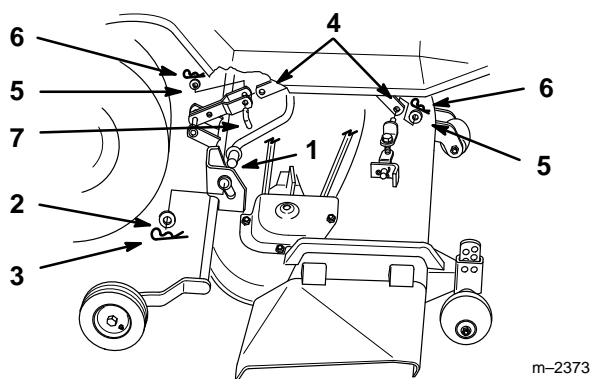

Figure 8
5. Place rear guide bushings, first left side then right, onto lift arms then slide deck left into position (Fig. 8).
6. Secure deck to rear lift arms with 3/4" washers and large hairpin cotters (Fig. 8).
7. Install front adjustable links to front lift arms with 1/2" washer and small hairpin cotter (Fig. 8).
8. Attach rear link to attachment lift with link pin, 1/2" washer and small hairpin cotter (Fig. 8).